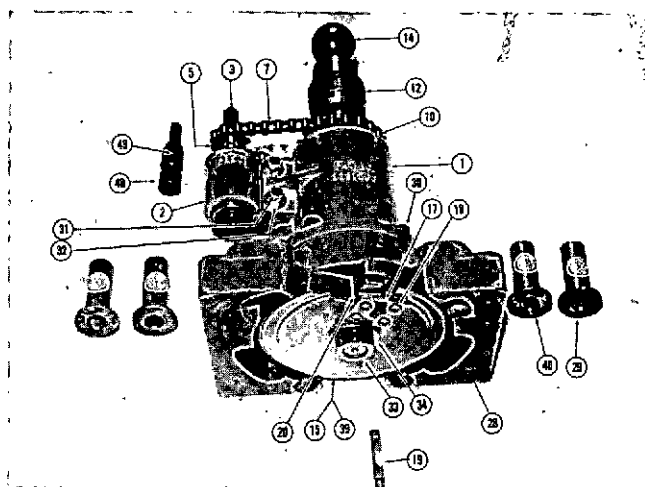
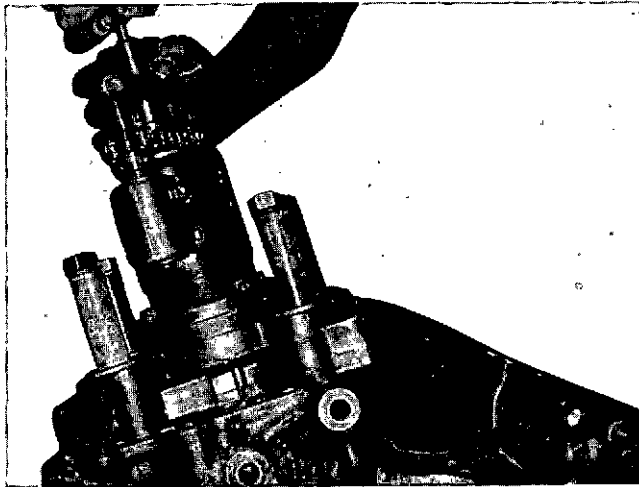

Fig. 1-1-35, V40172. ST-1168 Boring Tool
Fig. 1-1-38, V40191. Centering tool in counterbore
- a. Assemble adapter plate (Detail 28) to the main body with four socket head screws (Detail 30). Fig. 1-1-35.
2. Assemble tool holder (Detail 15 or 39) on shaft of the main body (Detail 1) and secure with nut (Detail 33) and washer (Detail 34). Fig. 1-1-35.
3. Lower tool holder into bore, Fig. 1-1-38, by pulling up on the orifice retractor knob (Detail 14), Fig. 1-1-35, while pushing down on set collar (Detail 12).